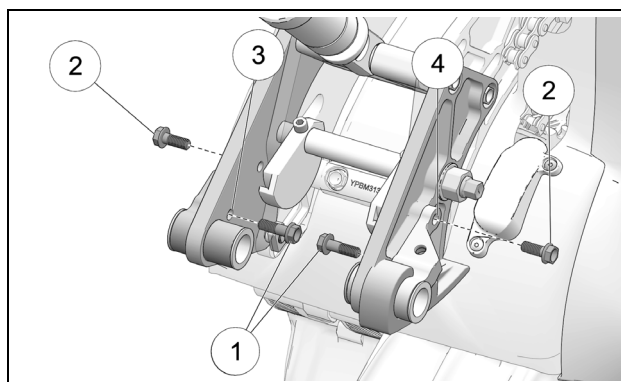

Figure 19
- Secure adapters to Bike Mount with the longer M8x25mm bolts (1) installed inside (3) and the shorter M8x20mm bolts (2) on the outside (4). Tighten bolts to 25 Nm [18 lb-ft]. See Figure 19.